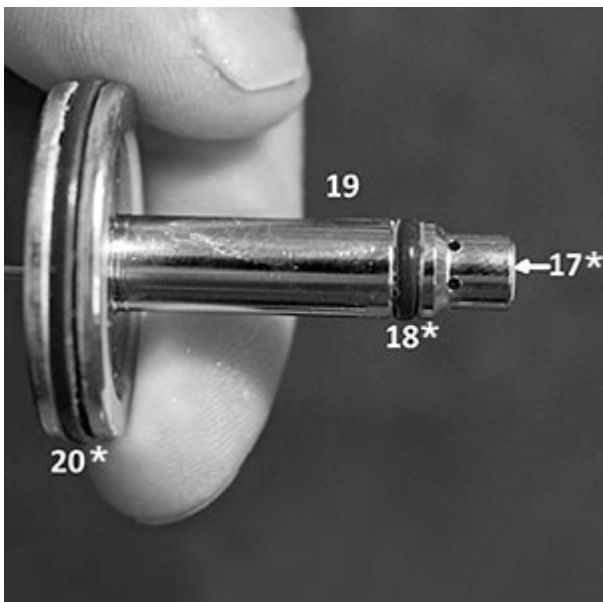

Fig. 15
10. Using a 1.27mm hex key, push the HP seat (17\*) from the end of the piston. Then using the pinch method, remove the O-ring (20\*) from the end of the Piston - Figs. 15 and 16. Using a thin brass pick, carefully remove the O-ring (18\*) from the piston shaft. This O-ring is quite stiff and may break upon removal.